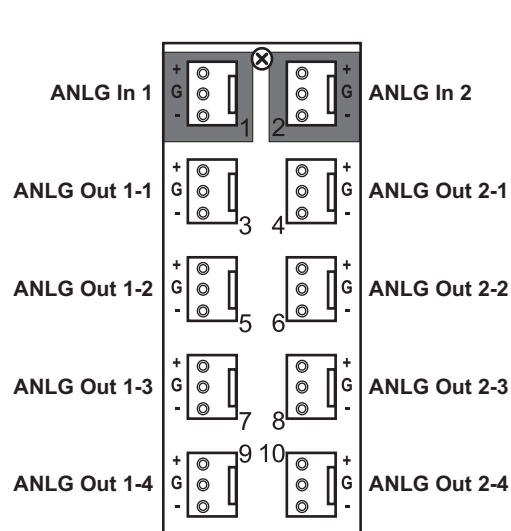

Figure 5 Cable Connections for the 8310AR-042 and 8320AR-042 Full Rear Modules
- 8310AR-042 — Each module occupies one slot and accommodates one card. This rear module provides two analog inputs, and eight analog outputs. (**Figure 5**)
- 8320AR-042 — Each module occupies two slots and accommodates one card. This rear module provides two analog inputs and eight analog outputs. (**Figure 5**)